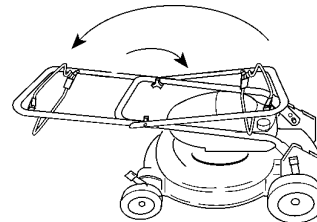

Figure 44
2. Rotate the handle toward the front of the mower (Fig. 44).
3. Loosen the knobs securing the top handle section to the bottom section and fold the top handle section back towards rear of the mower into the storage position (Fig. 44).